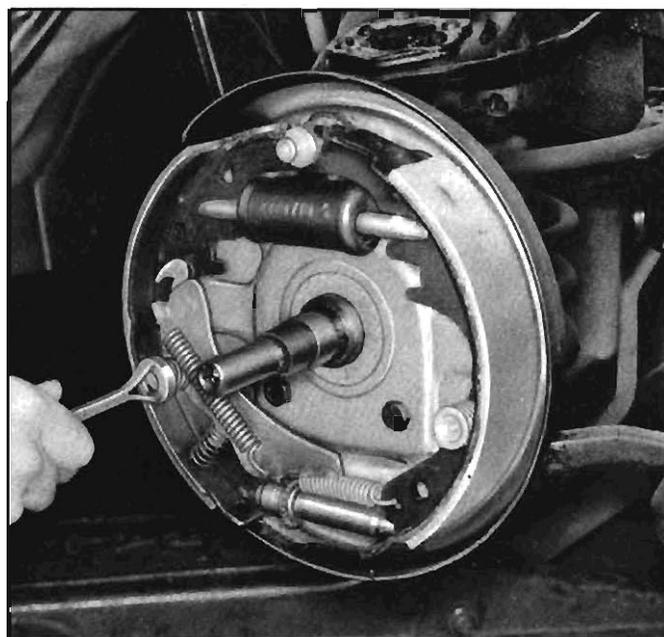

Fig. 5-9—Removing Hold Down Springs and Pins
7. Remove hold-down pins and springs using a pair of needle nose pliers (fig. 5-9).